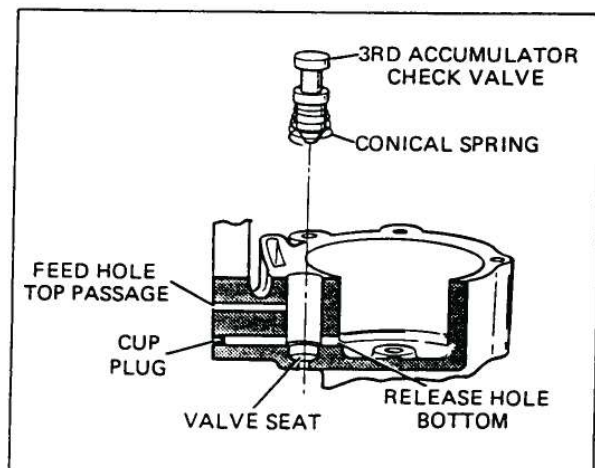

Figure 1
3. Inspect the third accumulator valve bore for presence of the valve seat (Figure 1). Also, inspect for wear or damage to the seat.
4. Plug the feed and exhaust holes in the bore using petrolatum (Figure 1).